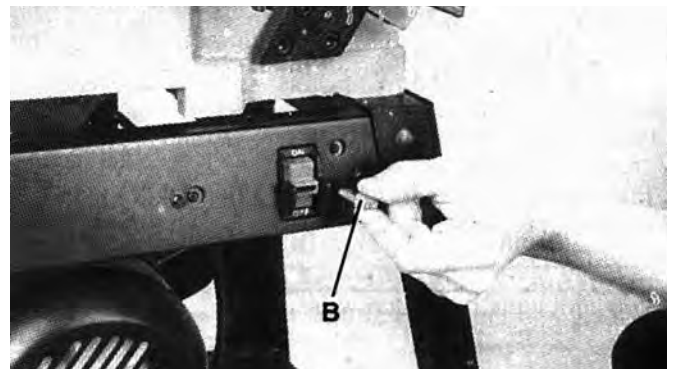

FIGURE 25
We suggest that when the jointer is not in use, the switch should be locked in the "OFF" position. This can be done by grasping the switch toggle (B) Fig. 25, and pulling it out of the switch as shown. With the switch toggle (B) removed, the switch will not operate. However, should the switch toggle be removed while the machine is running, it can be turned "OFF" once, but cannot be restarted without inserting the switch toggle (B).